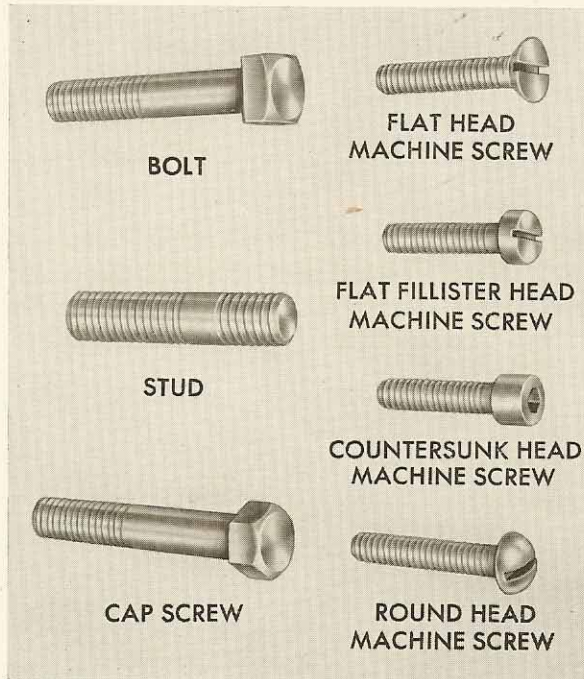

FIGURE 8-16
25. STUD, BOLTS, SCREWS: Figure 8-16 illustrates various parts having male threads.